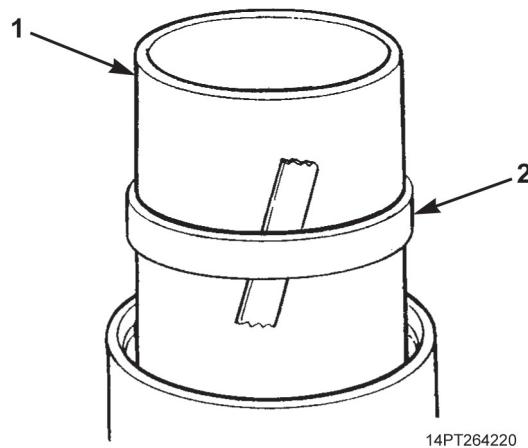

Figure 16. Bottom Guide Ring Removal.
22. Extend sleeve (Figure 16, Item 1) a few inches and apply tape to a cleaned section of sleeve.
23. Retract and extend sleeve (Figure 16, Item 1) to expose bottom guide ring (Figure 16, Item 2). Remove and discard bottom guide ring.